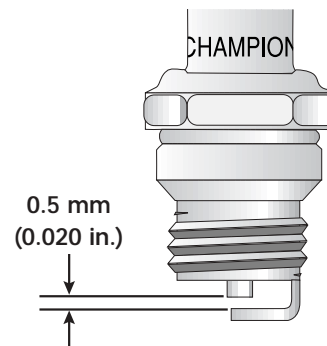

FIGURE 39
3. Set the air gap at **0.5 mm (0.020 in.)** using a feeler gauge, Figure 39.